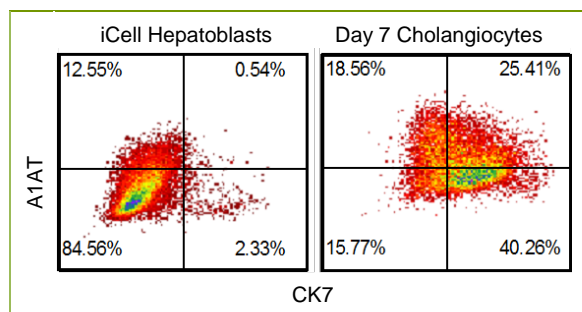

Figure 1: Flow Cytometry Analysis of A1AT and CK7 Expression in Cholangiocytes Differentiated from iCell Hepatoblasts
2. Use the live/dead signal (red), CK7 (far-red), and A1AT signal (green) to evaluate hepatoblast differentiation into cholangiocytes (Figure 1).